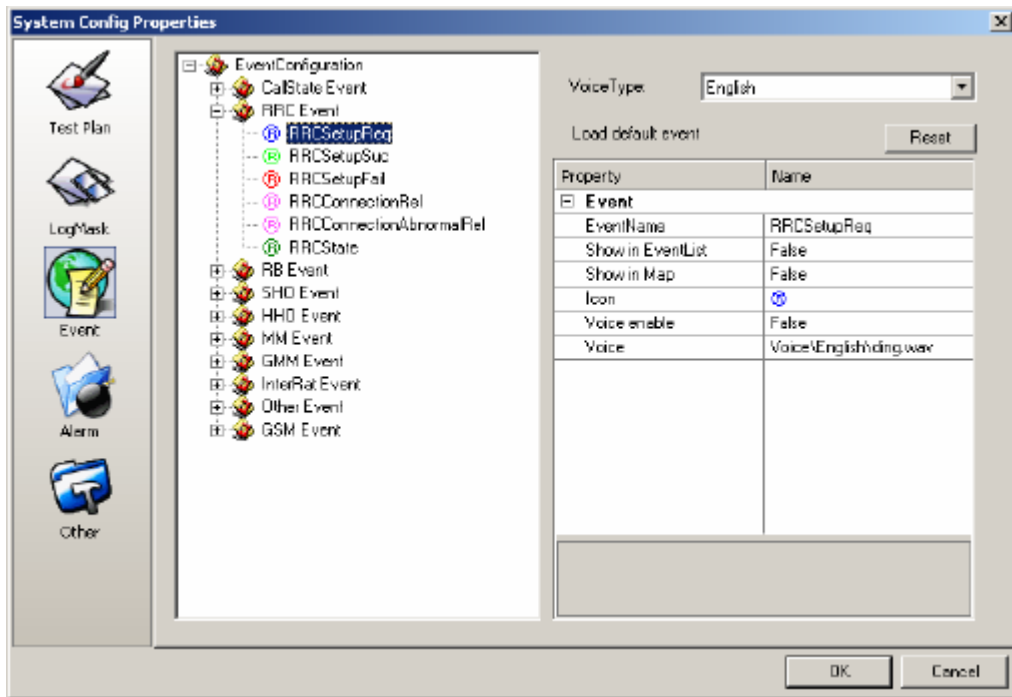

Figure 6-29 Event dialog box
- 1) Click the event icon in the left side of the **System Config** window. The **Event** dialog box is displayed, as shown in Figure 6-29.